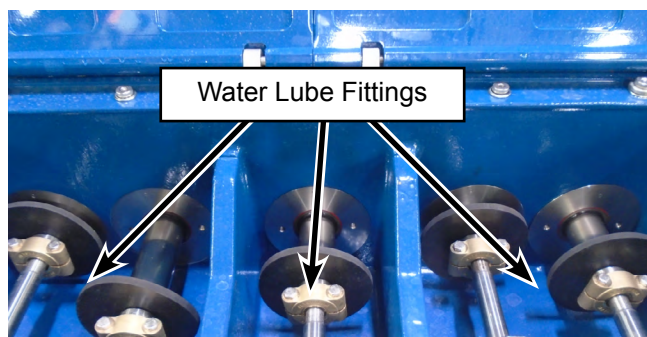

Figure 40: Apply Thread Sealant and Install Lube Fittings.
16. Apply thread sealant to the threads of the lubrication line fittings. Install the fittings onto the stuffing boxes. Re-Install the water lube lines. (Figure 40)